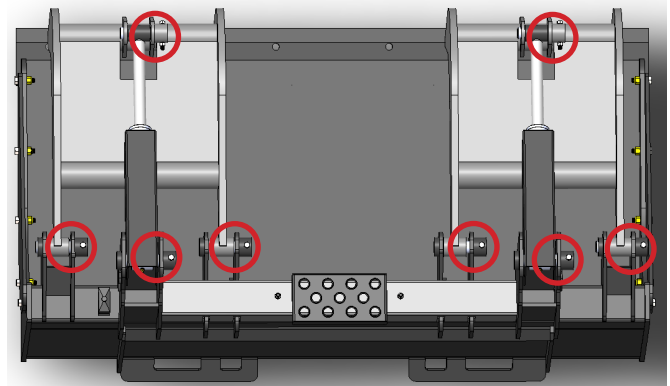

Figure 1
The Extreme Duty High Capacity Grapple Buckets have eight (8) grease points. These points are circled in Figure 1.